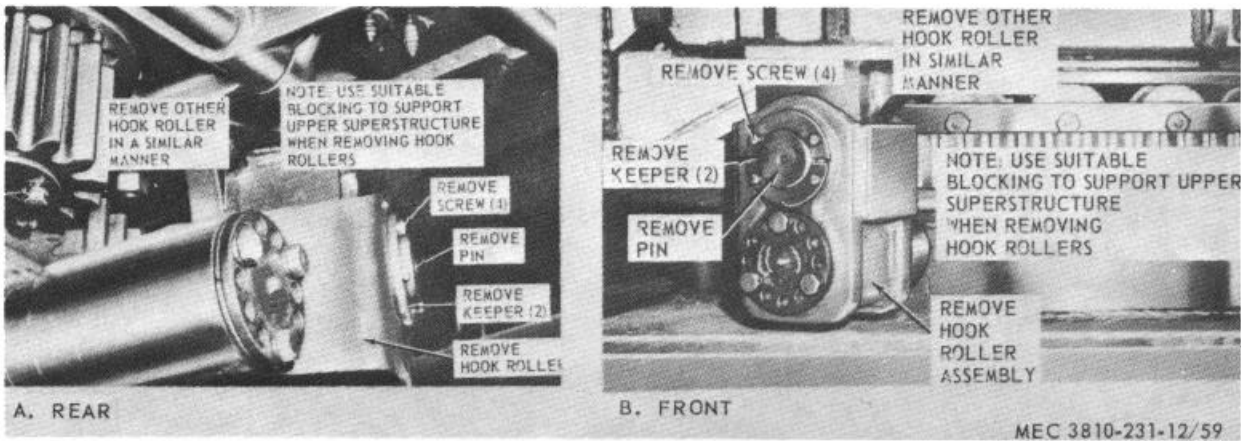

Figure 59. Hook roller assembly, removal and installation.
- (4) Install the cap screws after the adjustment is complete.
- (5) Check the hook roller bracket for tightness every time the hook rollers are adjusted. If the machine is operated with loose hook roller bolts, severe damage to the entire machine may result.
b. *Removal.* Remove hook roller assemblies as illustrated on figure 59.
- (1) Clean all parts with an approved cleaning solvent and dry thoroughly.
- (2) Inspect for cracks, breaks, and excessive wear. Repair or replace defective parts.
d. *Installation.* Install hook roller assemblies as illustrated on figure 59.